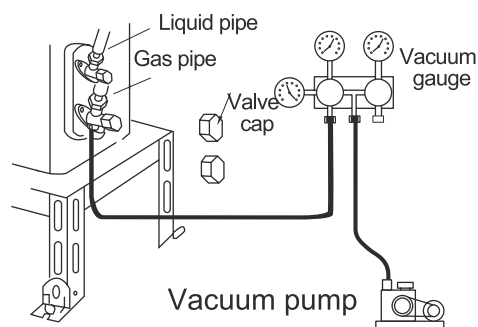

Fig.5
8. Tighten bonnet of low-pressure valve. (As shown in Fig.5)